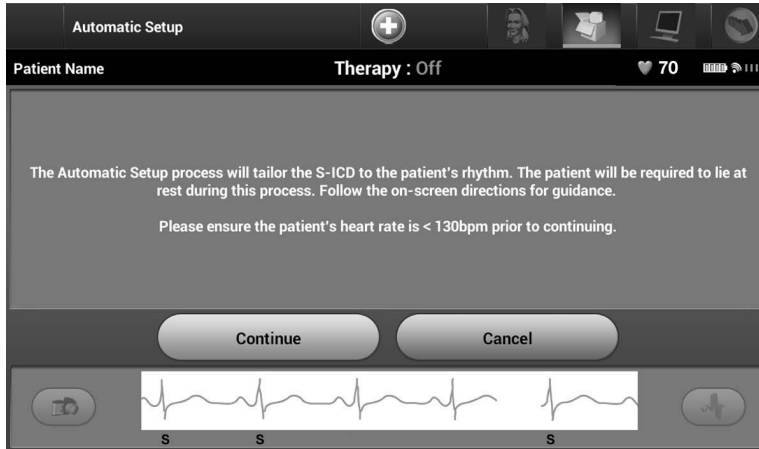

Figure 25: *Automatic Setup screen*
4. Select Continue if the patient's heart rate is less than 130 bpm (Figure 25). For rates greater than 130 bpm, select the Cancel button and refer to the **Manual Setup** section on page 76.